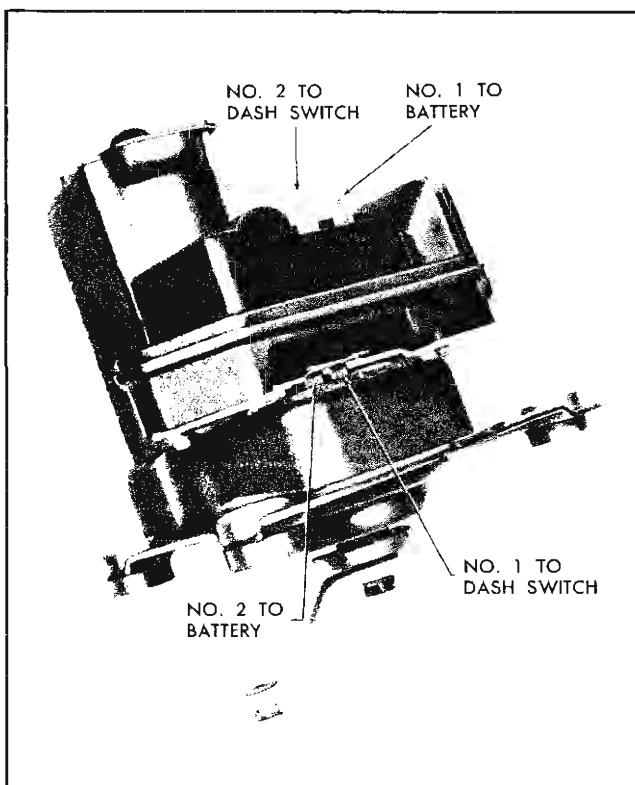

Fig. 11-84 Washer Pump Terminals
2. If all items in Step 1 check out, start wiper motor only, then push washer button and listen for "click" as washer relay pulls in. If no "click" is heard, check for 12 volts at terminal No. 2 (Fig. 11-84). No voltage indicates defective wiring. If "click" is heard, proceed to Step 4.
3. If correct voltage was found in step No. 2, connect a jumper wire from terminal No. 1 to ground (Fig. 11-84) and operate wiper. If washer relay "click" is heard and pump functions correctly, a defective dash switch or an open circuit between washer pump and dash switch is indicated—"No Click" indicates an open relay coil.